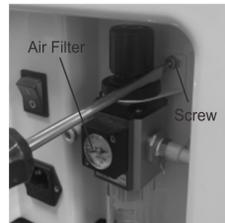

Figure 17
2. Take out the air filter after removing the screw. (As fig 17 shows)